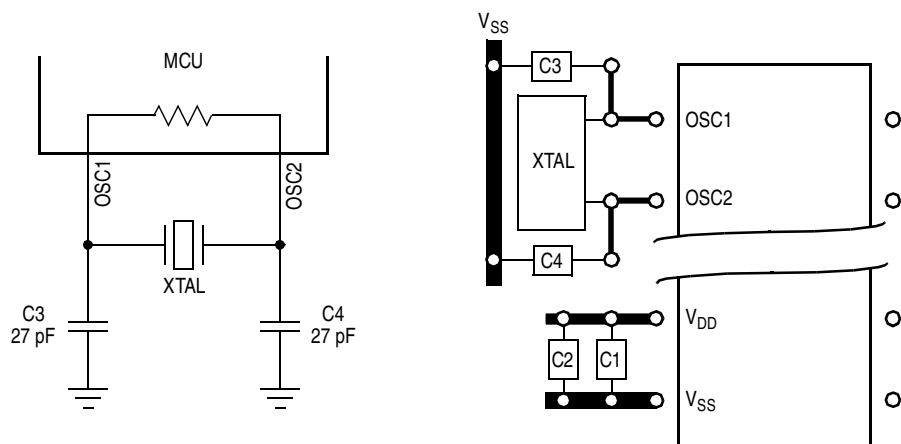

Figure 1-4. Crystal Connections with Oscillator Internal Resistor Mask Option
1. Crystal (See Figure 1-4 and Figure 1-5.)
Figure 1-4 and Figure 1-5 show a typical crystal oscillator circuit for an AT-cut, parallel resonant crystal. Follow the crystal supplier's recommendations, as the crystal parameters determine the external component values required to provide reliable startup and maximum stability. The load capacitance values used in the oscillator circuit design should include all stray layout capacitances.